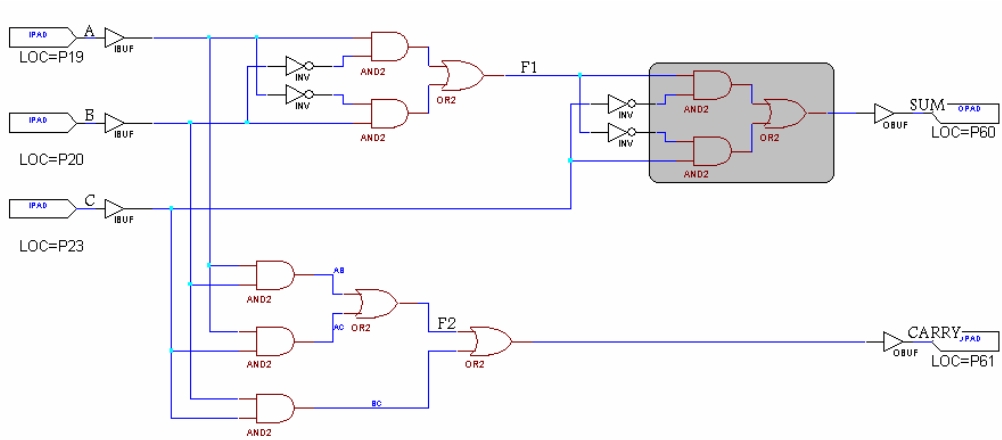
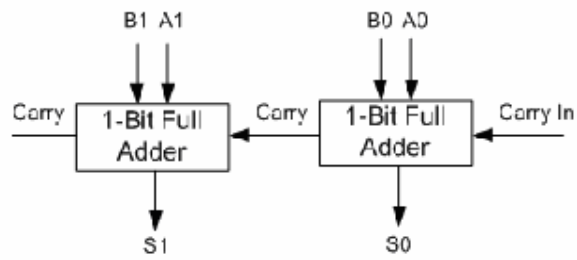

Figure 4.1
Figure 4.5
- Create a macro for the circuit bounded by the shaded box shown in Figure 4.1 (Notice that this part is repeated three times in the circuit). Call this macro MACRO41.
- Analyze the circuit given in Figure 4.1 to find another region where you can use MACRO41.
- Build a two-bit adder using the circuit given in Figure 4.1 as a macro (FA) by connecting them as shown in Figure 4.5